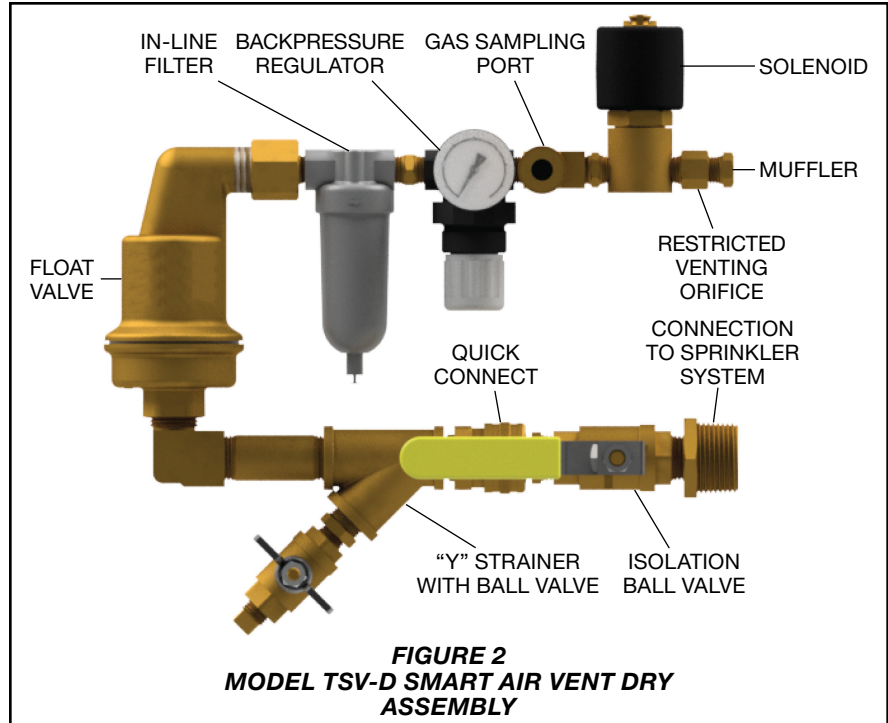

FIGURE 2
Step 1. Install a 1 in. outlet (welded or mechanical) to connect the vent assembly to the sprinkler system on the system side of the main control valve, as shown in Figure 2. The isolation ball valve shall remain in the closed position until the nitrogen generator system is commissioned.